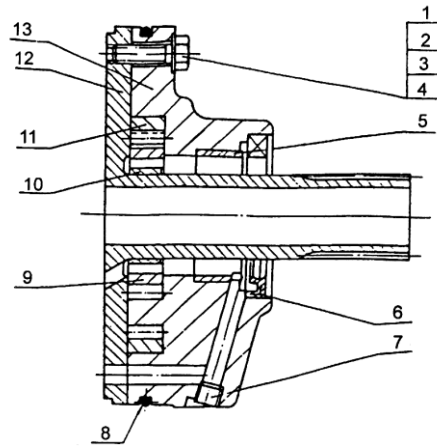

Figure 4-6 Supply oil pump
- Sealing rings (A) and (B) should be replaced if worn or damaged.
- The working face of thrust ring (A) and (B) should face towards the gear.
6. Supply pump (see Figure 4-6)